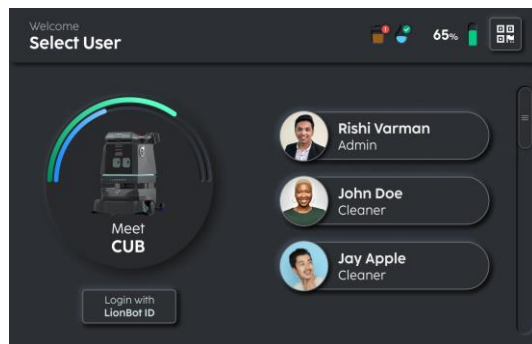

FIGURE 3-15
1. Select the local account for login (Fig. 3-15).